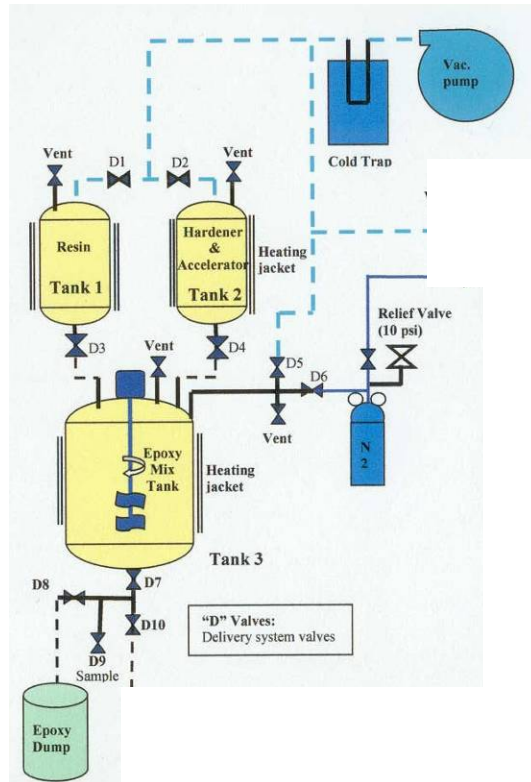

Figure 4- Epoxy Mixing System
- Pour the pre-weighed component of Part A (resin) into Tank No. 1. See Figure 4- Epoxy Mixing System.